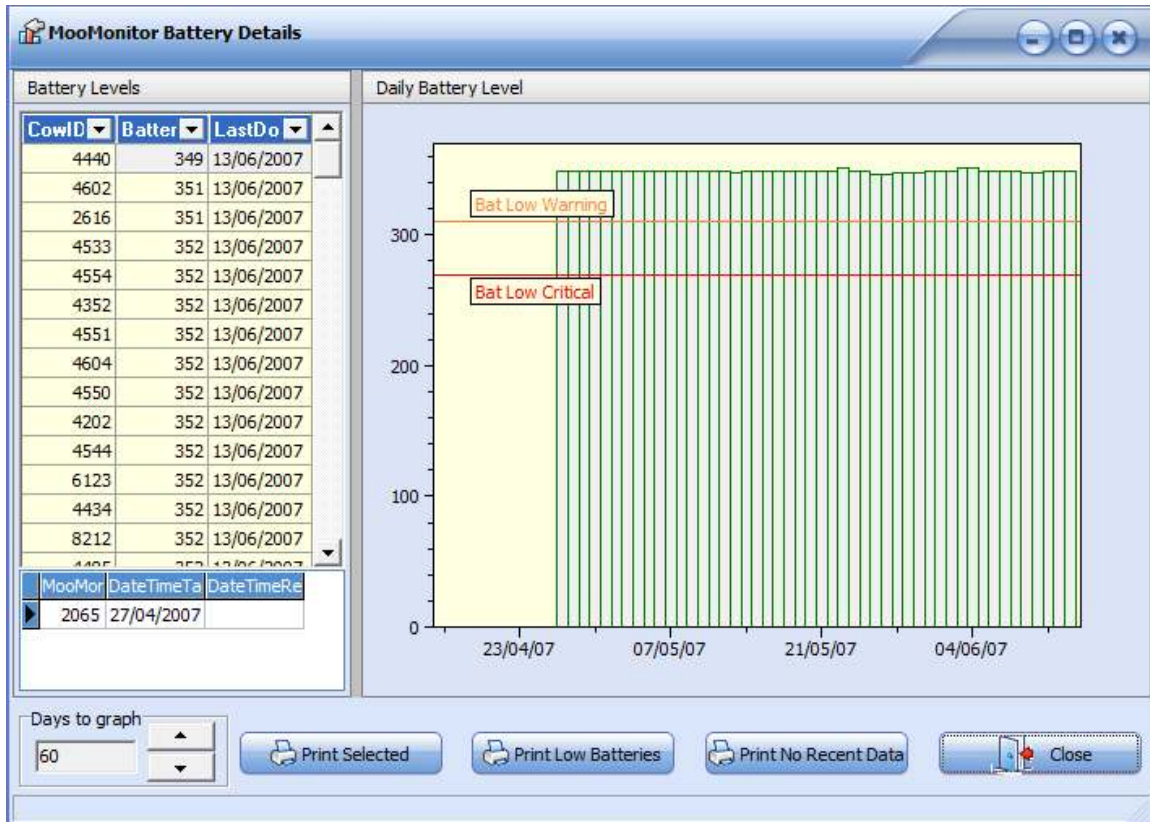

Figure 45 MooMonitor Battery Details screen.
- b. The screen in Figure 45 on the next page will be displayed.